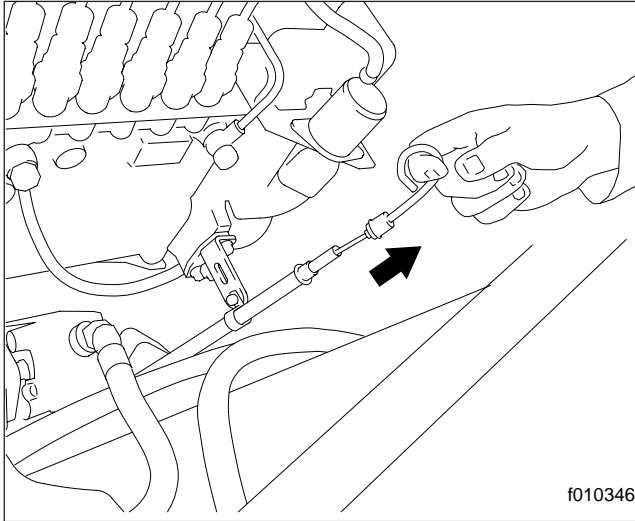

Fig. 9.7, Engine Oil Level Checking
15. *Check the engine oil level (Fig. 9.7).*